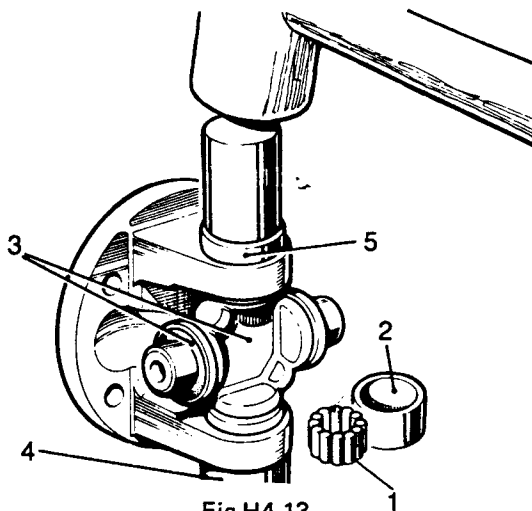

Fig H4.13
- (1) Refer to Fig H4.13. Assemble the needle rollers (1) in the bearing races (2). If necessary, use a smear of vaseline to retain them in place.
- (2) About half fill the races with a recommended grease.
- (3) Insert the journal (3), complete with seals, into the flange yoke holes with the grease nipple tapping pointing away from the flange.
- (4) Place the flanged yoke on a suitable flat support (4).
- (5) Place the first bearing (5) in position.
- (6) Using a brass drift slightly smaller in diameter than the hole in the yoke, tap the bearing into position.
- (7) Fit the circlip to retain the bearing.